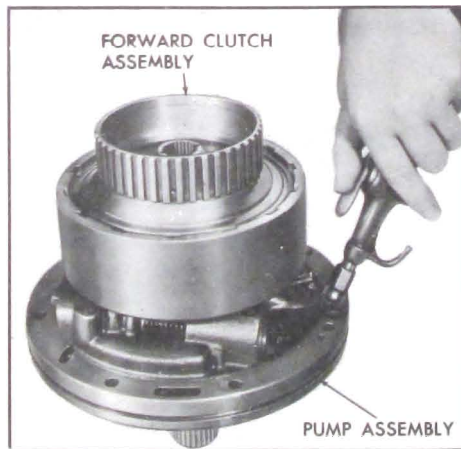

Figure 5-633
12. Place forward clutch housing on pump delivery sleeve and air check clutch operation. See Figure 5-633.